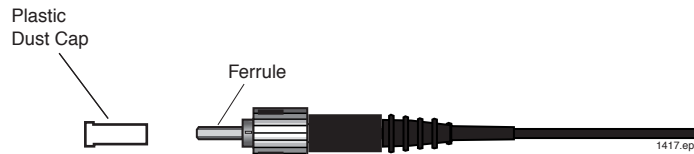

Figure 1. Identification of the dust cap and the ferrule of an ST fiber connector.
12. Insert the ferrule tip (see Figure 1 for identification) into the adapter on the microscope until the ferrule body is completely seated. Turn on the microscope light and adjust the angle of the light bulb so the ferrule tip is illuminated.